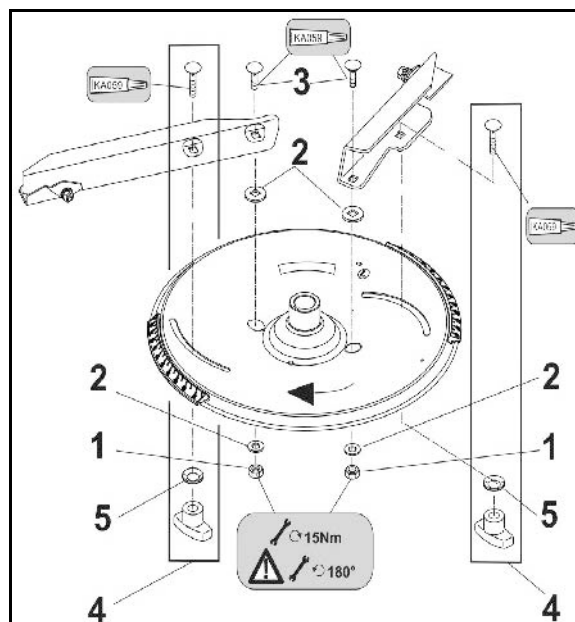

Fig. 90
2. Relieve the springs (Fig. 90/1) by unscrewing the nuts (Fig. 90/2).